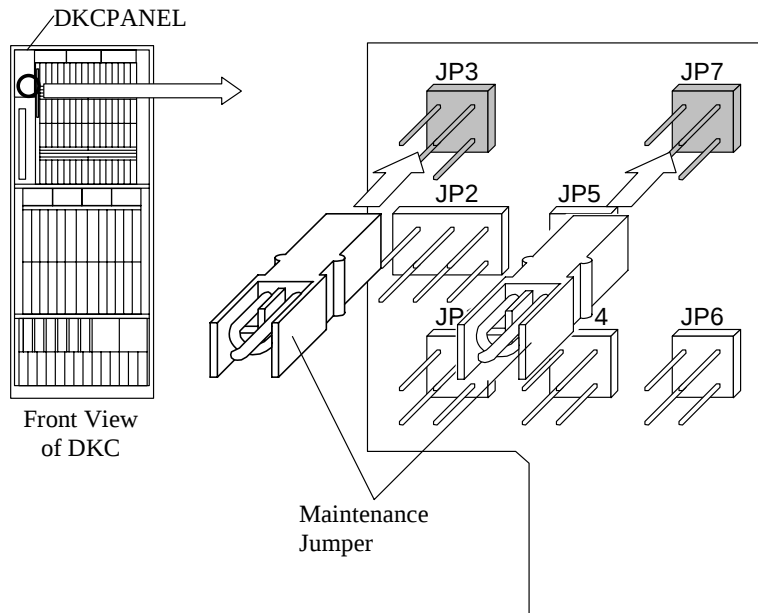
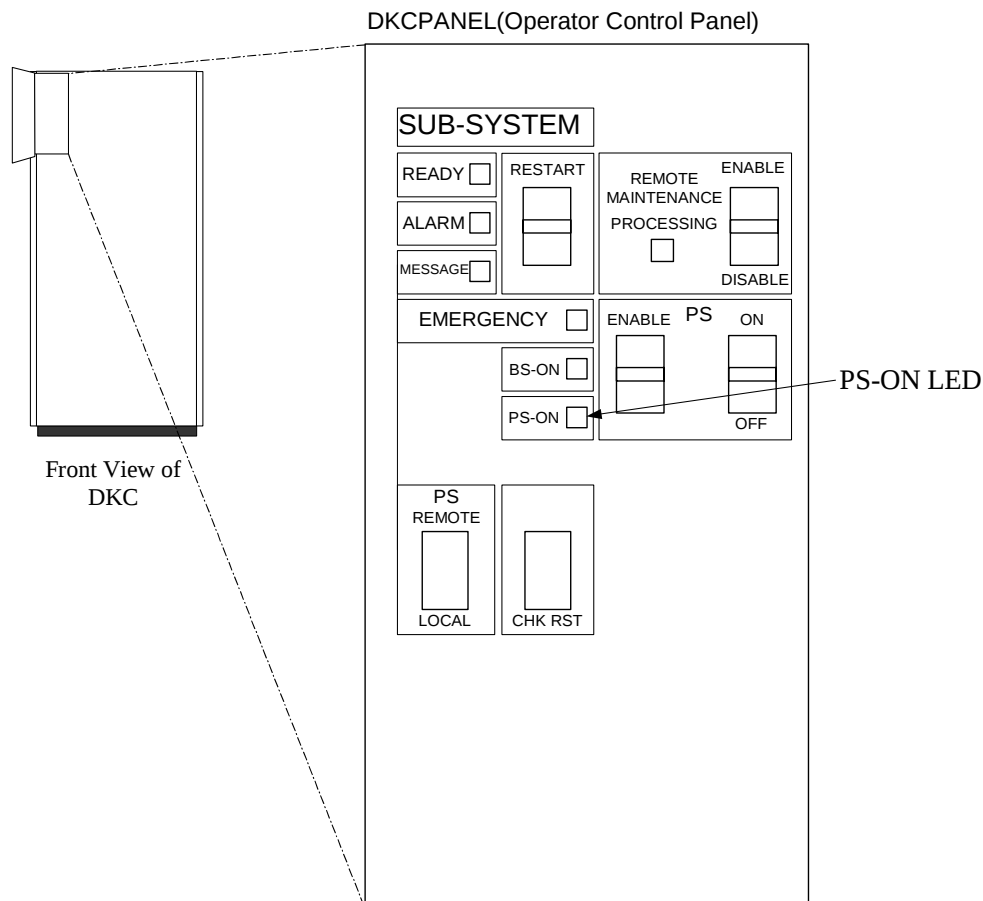

Fig.16.1-2 Insertion of Maintenance Jumpers
Fig.16.1-3 LED Location
- c. Remove the maintenance jumpers after PS-ON LED is off. (Refer to Fig. 16.1-2 and Fig. 16.1-3.)